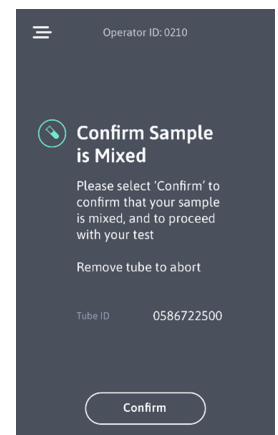

Figure 13
2. Select 'Confirm' on the touch screen to confirm that the sample has been adequately mixed prior to insertion (Figure 13).